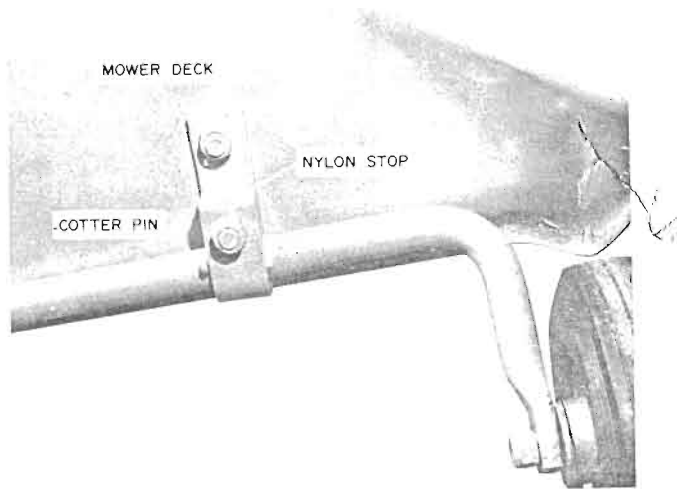

fig 3
4. Install a cotter pin in hole through axle just left of right side axle support. The cotter pin is not to interfere with the mower deck, fig 3.